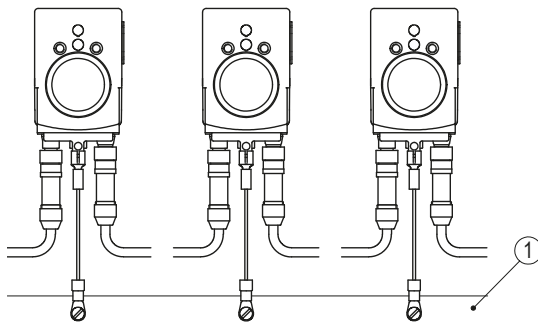

Fig. 6: Ground bar
For protection against interference, the screens of the signal lines and the power line must be connected on both sides. Potential differences cause inadmissible currents on the screen. Install the PE connection ④ onto the protective earth conductor potential between the plug connectors (see Fig. 5). Use 6.3 mm flat connectors or cable lug with short strands 2.5 ... 4 mm² (not in the scope of delivery). For multiple position indicators we recommend connecting the earthing to a ground bar ① (see Fig. 6).